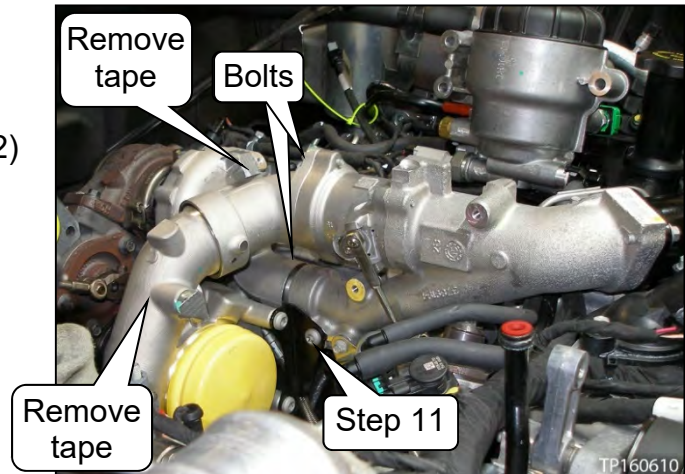

Figure 69
11. Torque the T45 TORX® bolt, and two (2) new bolts shown in Figure 69.
- Remove the tape (see Figure 69).